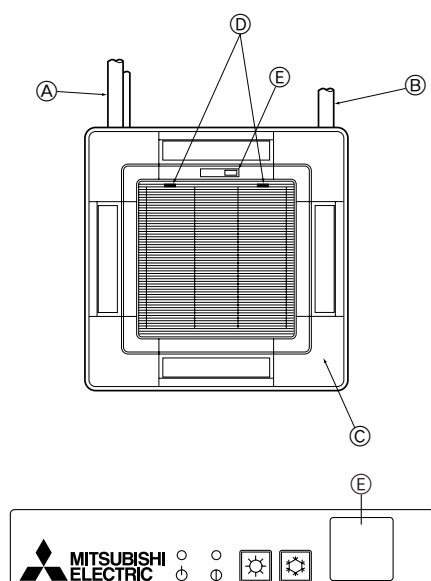

Fig. 8-11
8.5. Installing the intake grille (Fig. 8-11)
- (A) Refrigerant piping of the main unit
- (B) Drain piping of the main unit
- (C) Corner panel
- (D) Position of the levers on the intake grille when sent from the factory.
- (E) Receiver